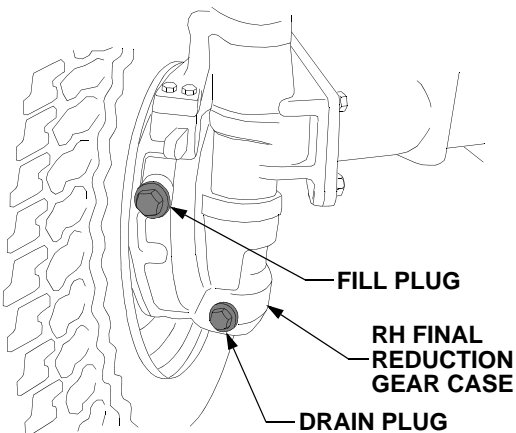

Figure 47
- Remove the fill plug and drain plug from the gear case and drain the oil. See Figure 47. After the oil has drained, reinstall the drain plug.